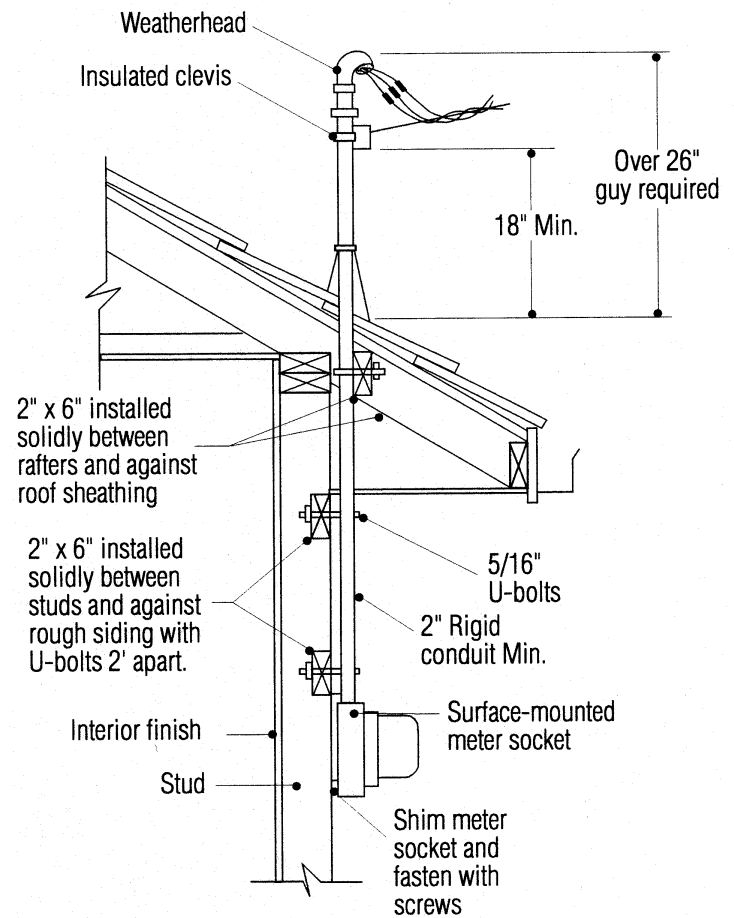

Figure 9 Surface-mounted meter socket
The equipment will be installed per Figure 9. Deviations require prior approval by the Cooperative.
- b. The service equipment meets the meter socket requirements (see Figure 9 below) for 100 and 200 amp sockets.